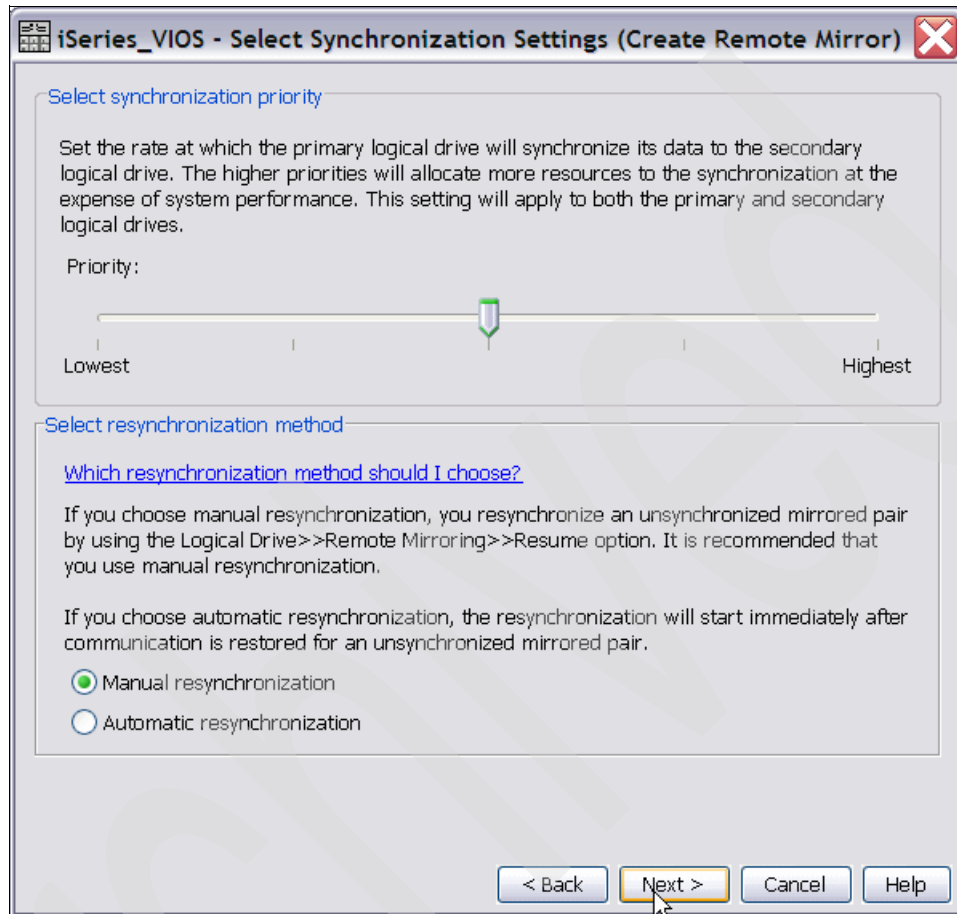

Figure 8-36 Specify priority of synchronization
9. On next window, specify the priority at which the system will allocate resources for initial Metro Mirroring synchronization, and for re-synchronization after suspend. Also, specify whether the re-synchronization after a suspend at link failure should be automatic, or you prefer to start it manually. See Figure 8-36.